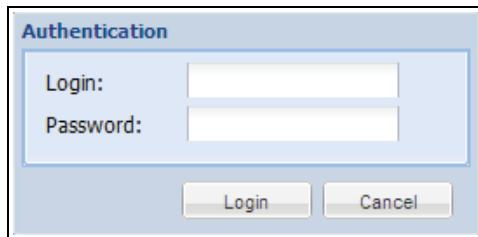

Figure 86. Login Authentication
3. Enter a valid user name and password in the Authentication dialog box (see Figure 86). Click **Login** to continue or **Cancel** to exit.